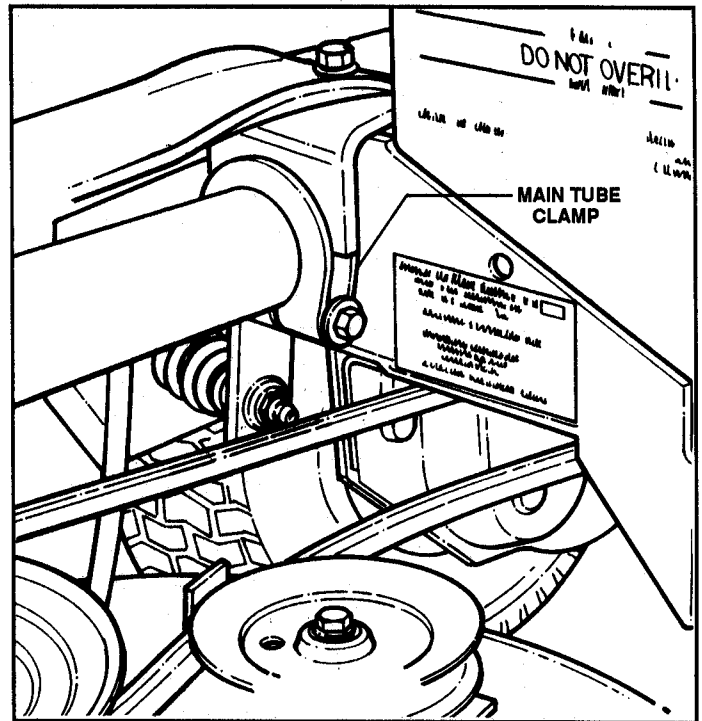

FIGURE 3.3
- Loosen main tube clamp. See Figure 3.3.